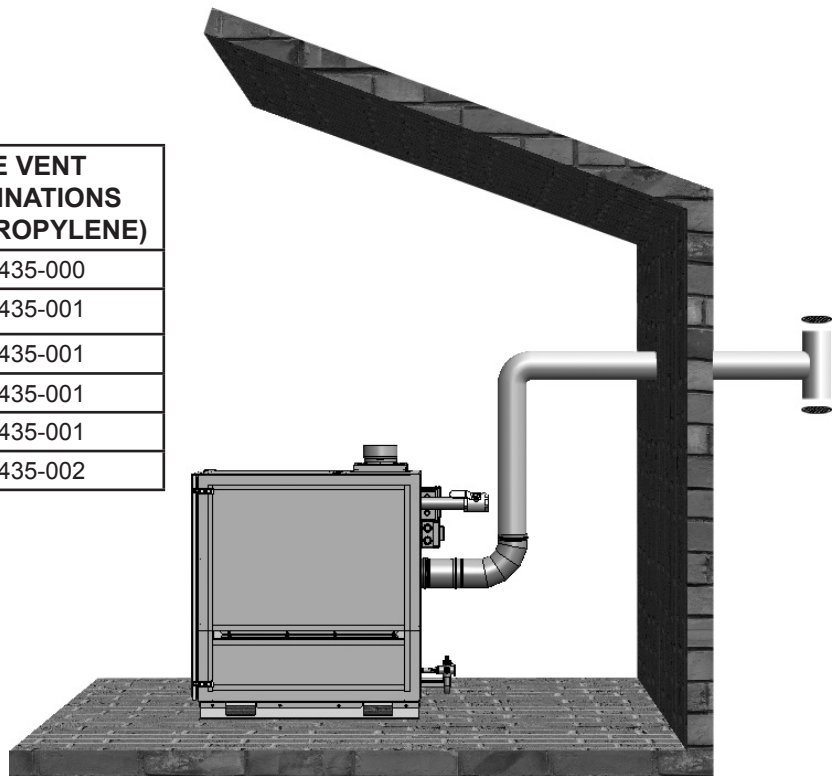

FIGURE 24. HORIZONTAL VENTING/ TERMINATION
2. **Through-the-Wall Termination (TWT)** - horizontal vent termination directly through an outside wall, see Figure 24 on Page 28.